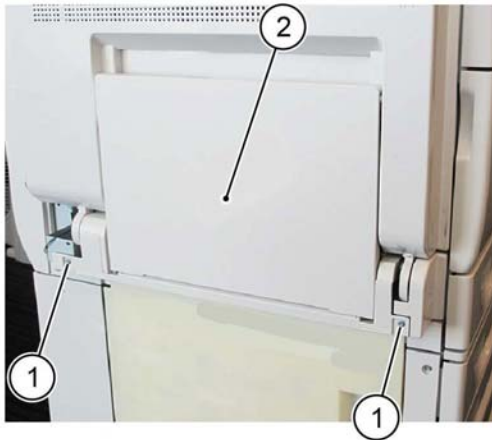

Figure 3 Bypass tray removal
3. Remove the bypass tray, **Figure 3:**
- a. Remove two screws (1).
- b. Remove the bypass tray (2).